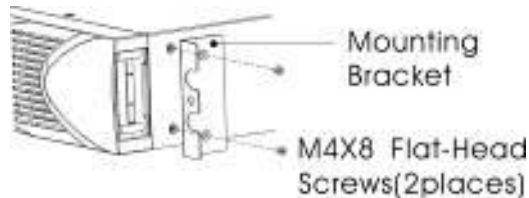

Figure3 - Installing the Mounting Brackets
- i) Align the mounting brackets with the screw holes on each side of the UPS and fix with the supplied M4×8 flat-head screws (see Figure 3)